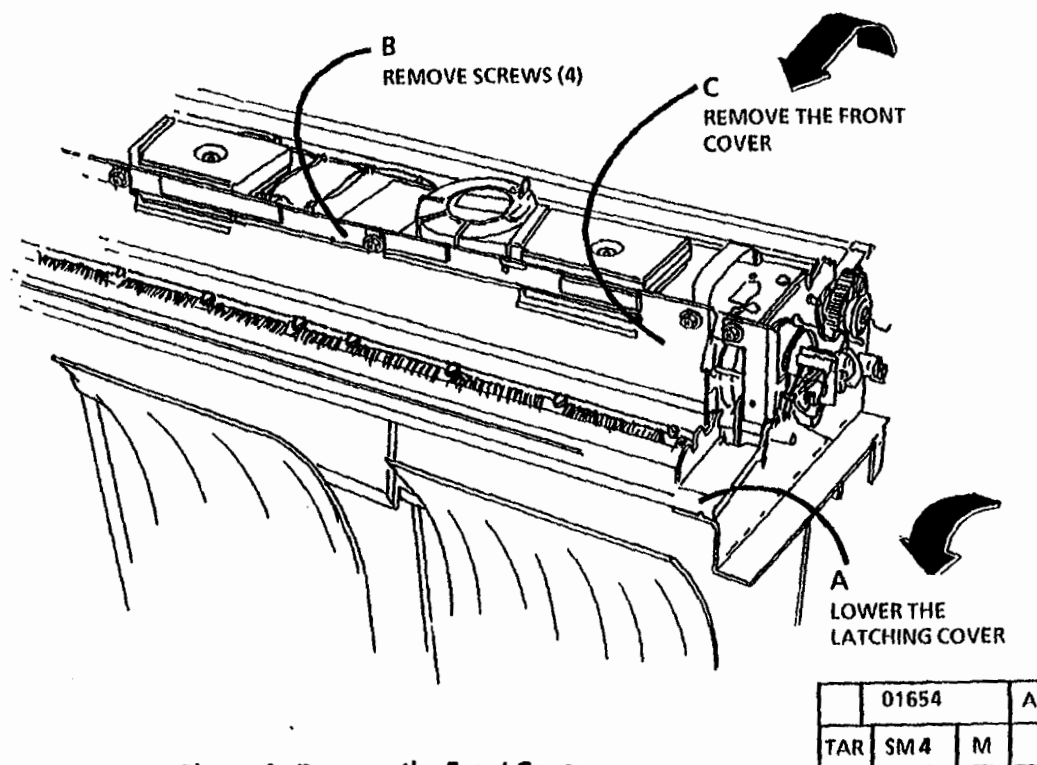

Figure 1. Remove the Front Cover
3. (Figure 1): Remove the Front Cover.